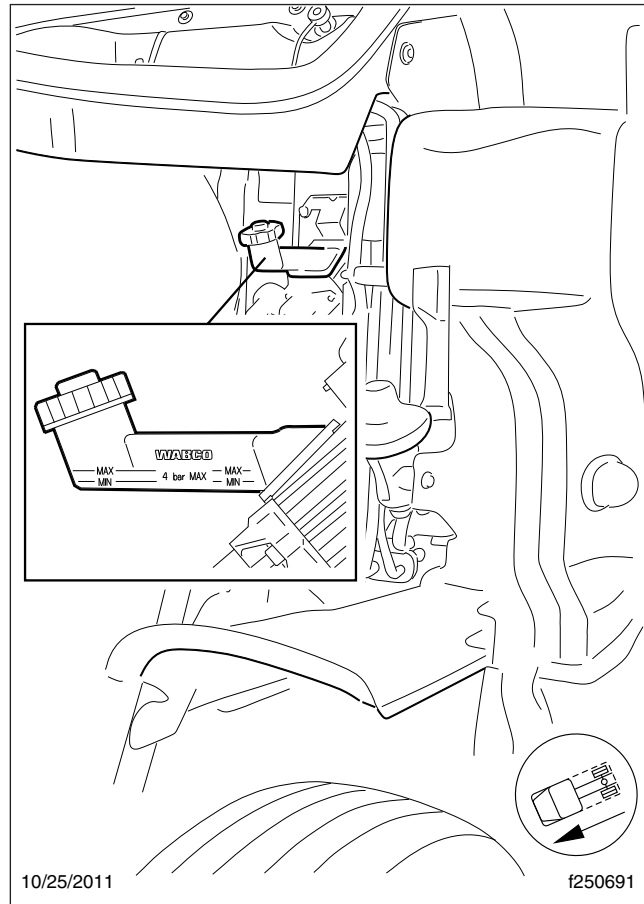

Fig. 3, Reservoir, Hydraulic Clutch Control
If the fluid level is below the MIN line, fill the reservoir with new DOT 4 brake fluid from a tightly sealed container until the level reaches the MAX line. See Fig. 3.
3. Remove the reservoir lid (see Fig. 3) and install the pressure bleed adaptor on the reservoir.
2. Remove the reservoir lid and fill the reservoir (see Fig. 3) with new DOT 4 brake fluid from a tightly sealed container.